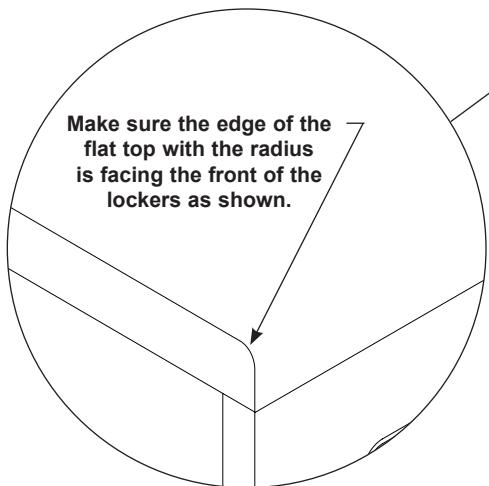

Figure 7d
1. Drill the appropriate number of 3/16" dia. clearance holes through the top of the installed lockers equidistant from locker front to back (see Figure 7d).